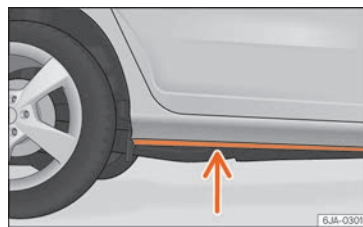

Fig. 220 Driving through water.
- Determine the depth of the water before entering. Water can reach a maximum height of below the door sill » **Fig. 220**.